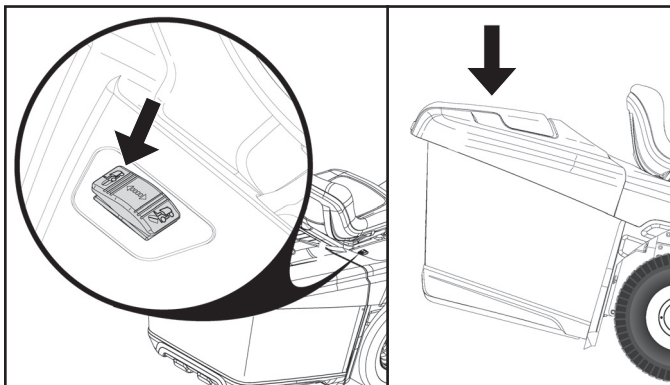

Fig. 36
- To lower the bagger, press the switch rearward. (See Fig. 36)